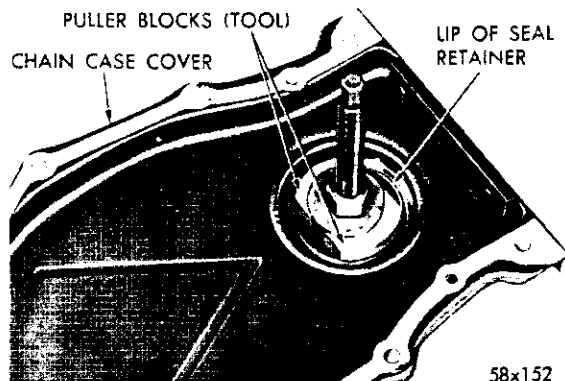
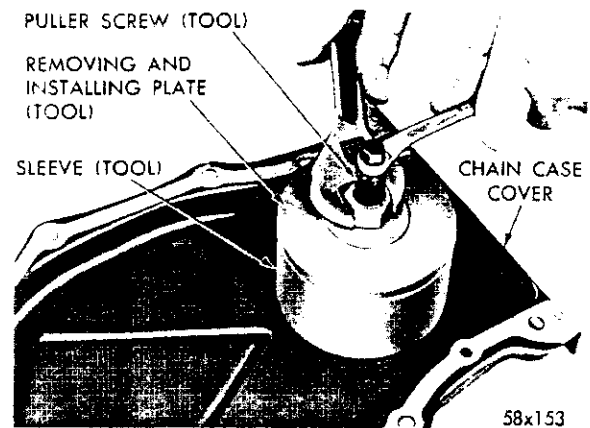

Fig. 27—Removing Timing Chain Case Cover Oil Seal Using Tool C-3506
Fig. 28—Removing the Oil Seal
(2) Place the washer and nut on puller screw. Tighten the nut as tight as possible by hand, forcing the blocks into gap to a point of distorting the seal retainer lip (Figure 27). This is important (puller is only positioned at this point).
(3) Place the sleeve over the retainer and place the removing and installing plate into the sleeve.
(4) Place the flat washer and nut on puller screw. Hold the center screw and tighten the puller nut to remove the seal (Figure 28).